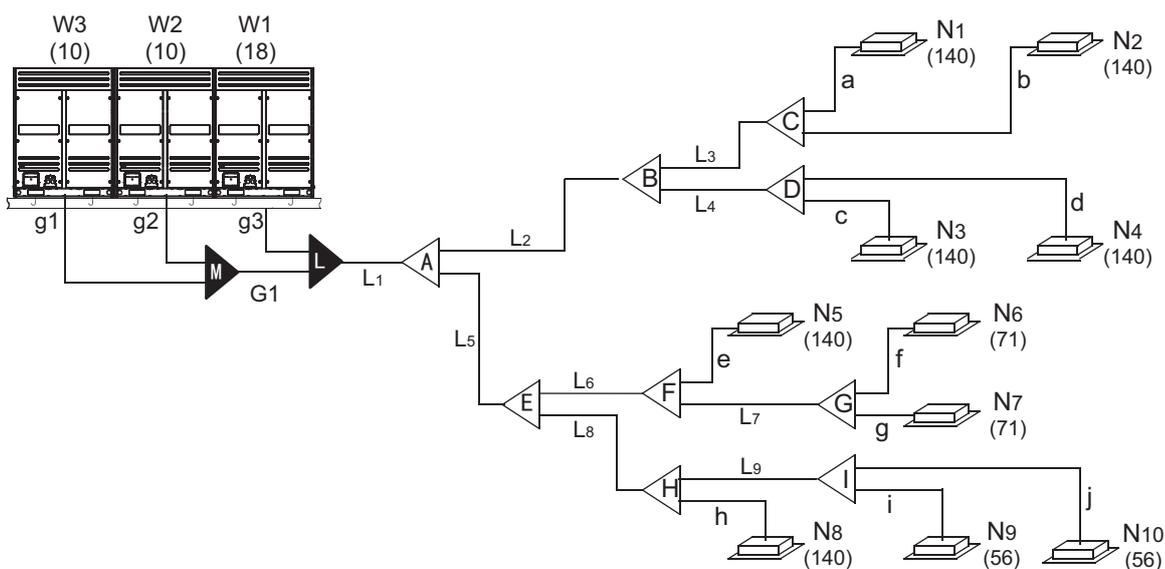

Fig.5-4
- 2) Take Fig.5-4 as an example. Provided that the equivalent length of all pipes in this system is larger than 90m.
Main pipe L1 in the Fig.5-4, which upstream outdoor units total capacity is $10 + 10 + 18 = 38$, base on table.5-5, the gas/liquid pipe diameter are $\Phi 38.1 / \Phi 22.2$, total capacity of the downstream indoor unit is $140 \times 6 + 56 \times 2 + 71 \times 2 = 1094$, base on table.5-3, the gas/liquid pipe diameter are $\Phi 38.1 / \Phi 19.1$, take the large one for your selection, final confirm the main pipe diameter is: gas/liquid pipe $\Phi 38.1 / \Phi 22.2$.